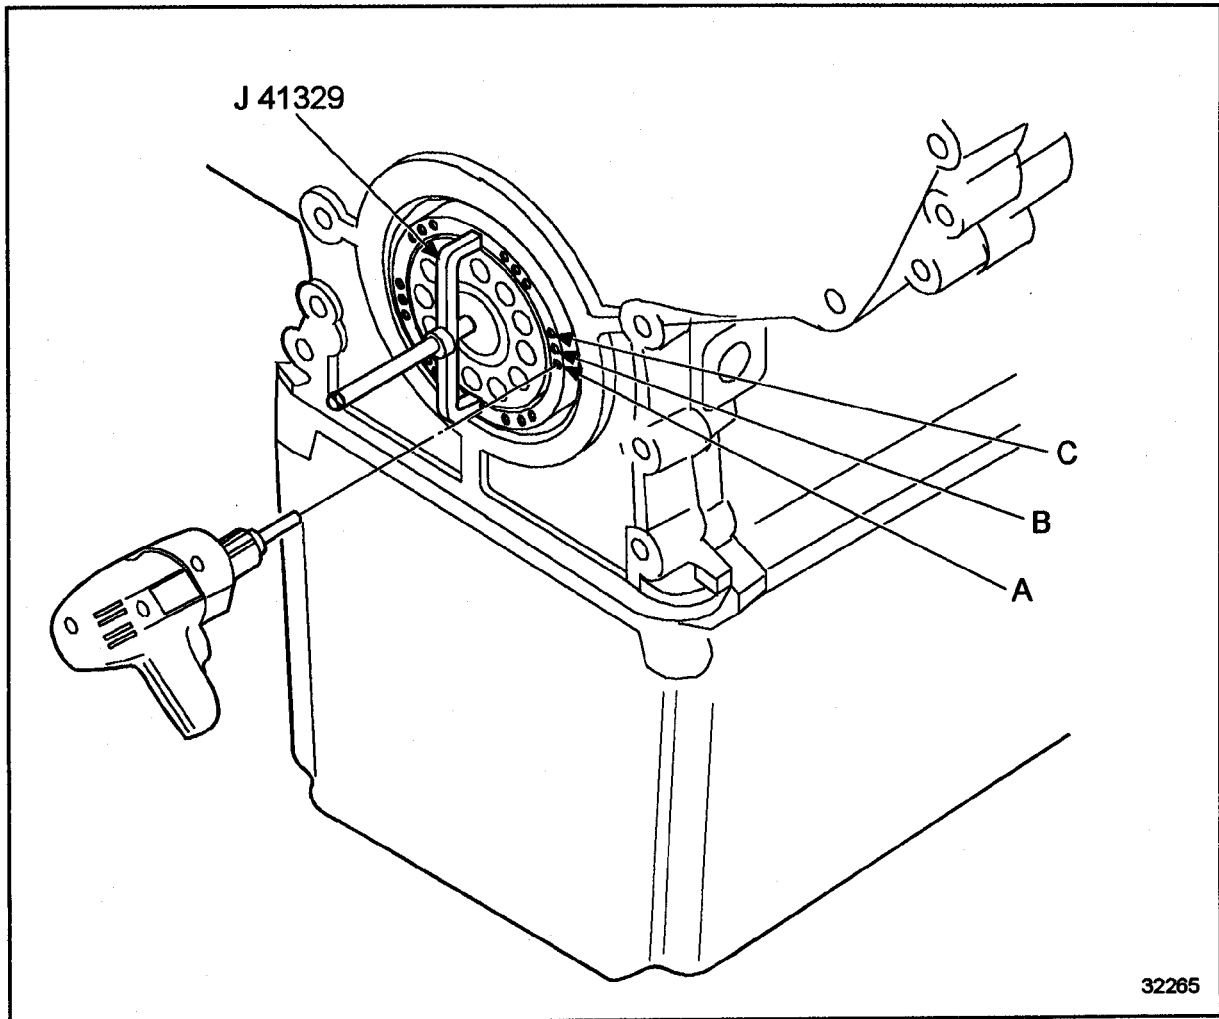

Figure 1-131 Rear Oil Seal Removal
2. Using variable speed drill motor and 5/32" bit, drill through outer and inner case of seal using smallest hole "A" as a guide. See Figure 1-131.